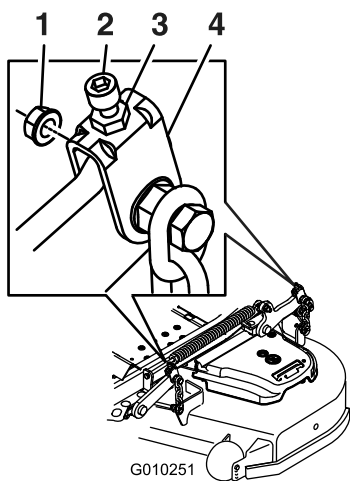
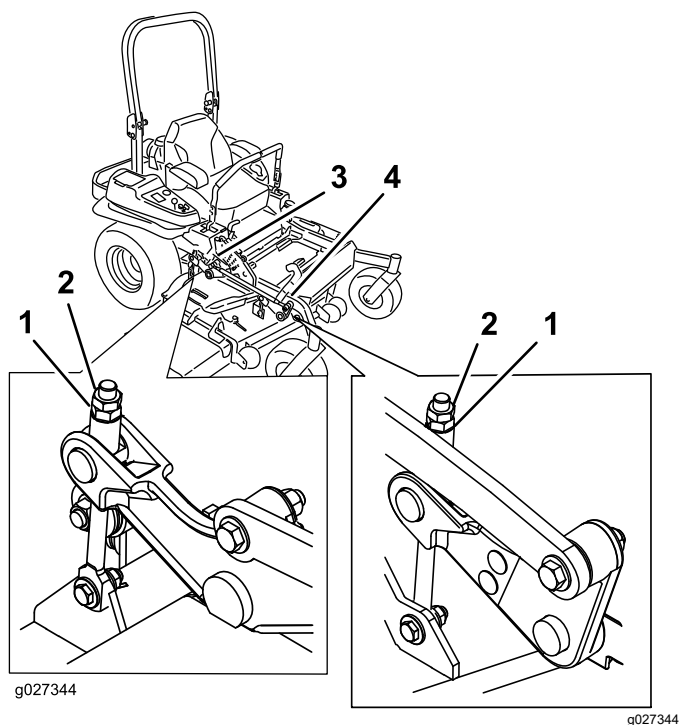

Figure 118
Figure 119
10. Fine-tune the adjustment nut on the front deck-lift assembly by turning it (Figure 118 or Figure 119).
16. Fine tune the screw adjuster by turning it to get 8.3 mm (3-1/4 inches) height (Figure 119).